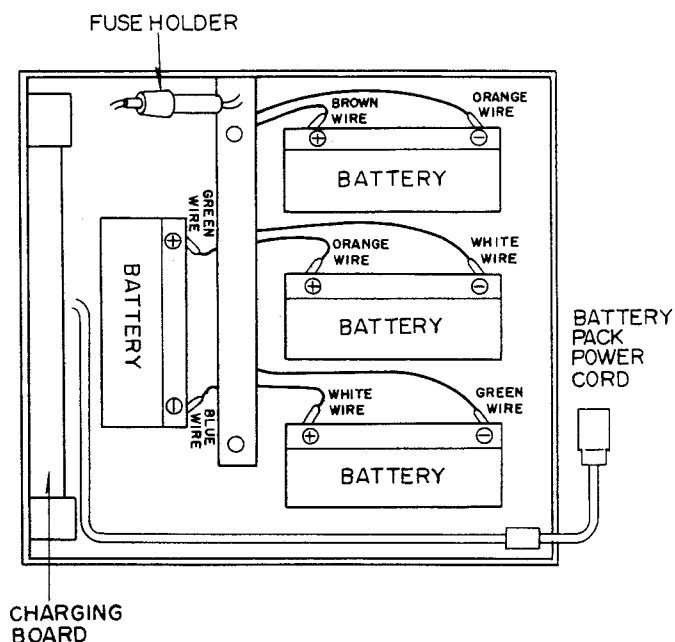

Figure 24.
- Connect the battery cords to batteries with the ⊕ sides of batteries meeting the ⊕ indication in the case, and ⊖ sides meeting the ⊖ indication. Proceed the battery connection in numerical order. Install the top of batteries as indicated. (See figure 24.)
- Take care the 2 long screws (B) never touches the battery terminals to prevent batteries from damage. Set the bottom cover and fasten 4 small screws (A).